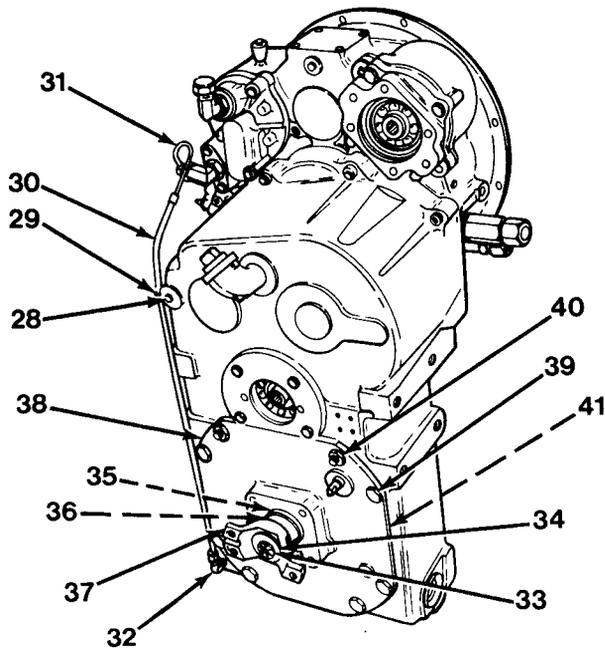

Figure 11-10
21. Remove capscrew (28), dipstick clamp (29), dipstick tube (30), dipstick (31) and elbow (32, Figure 11-10) from transmission.